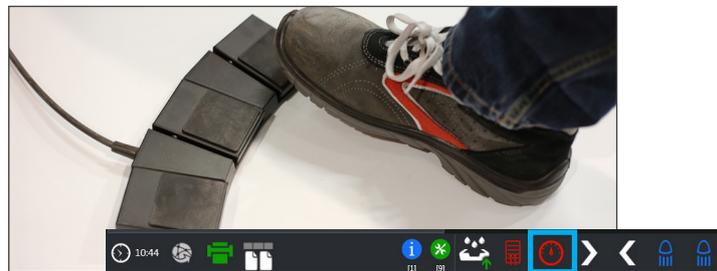

Fig.5-21: Foot Pedals & GUI vacuum
- Step 10: Press the left foot pedal to turn the vacuum belt On or alternatively you can turn on the media belt vacuum from the GUI (outlined in blue in Fig. 5-21).